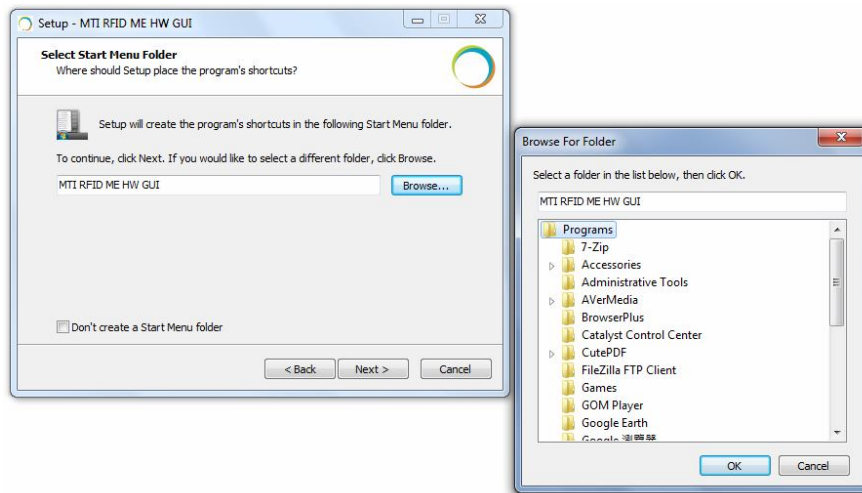

Figure 4
- 2.1.4. Select a destination for the program’s shortcut. To select a different folder, click “Browse” and choose one of the available options as shown in Figure 4.